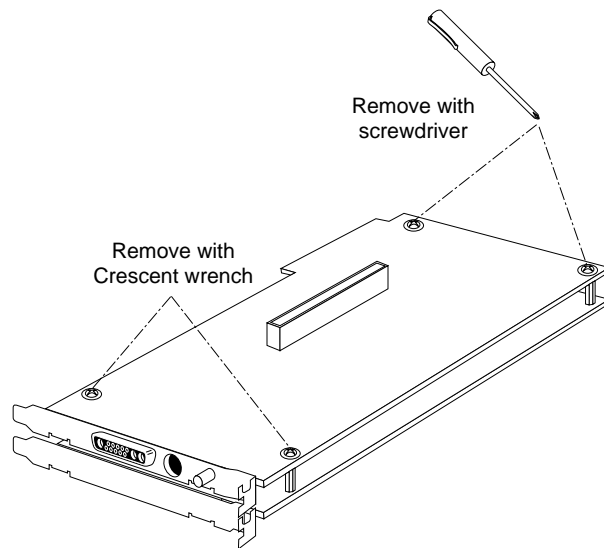

Figure 3-3 Removing screws and hex nuts from XZ graphics
1. Use a small crescent wrench to remove the two hex nuts from the corners of the XZ graphics boards. See Figure 3-3.
3. Remove the two phillips screws from standoffs in the opposite corners of the board. See Figure 3-3.